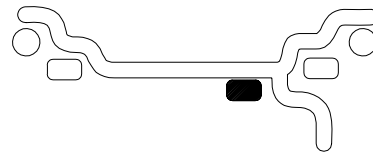

Figure 20
B. STATIC (single plane - Figure 20). Suggested for narrow rims (3" or less). Use a single corrective weight placed in the center of rim as illustrated in Figure 20.